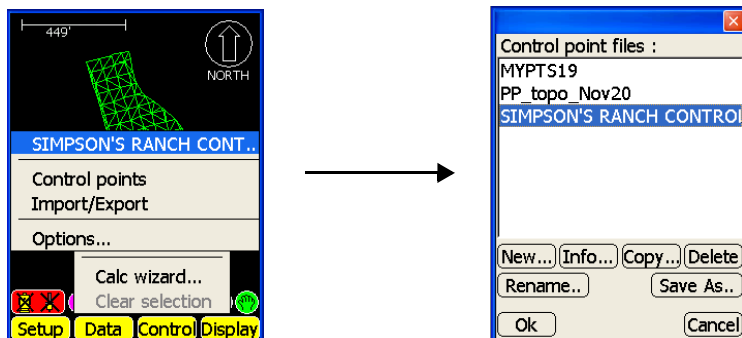

Figure 5-9. Select Control Point File
1. Press **Data ▶ Control**, select the correct Control Point file, and press **Ok** (Figure 5-9). See “Control Point Files” on page 2-2 for more information on selecting or creating new control point files.